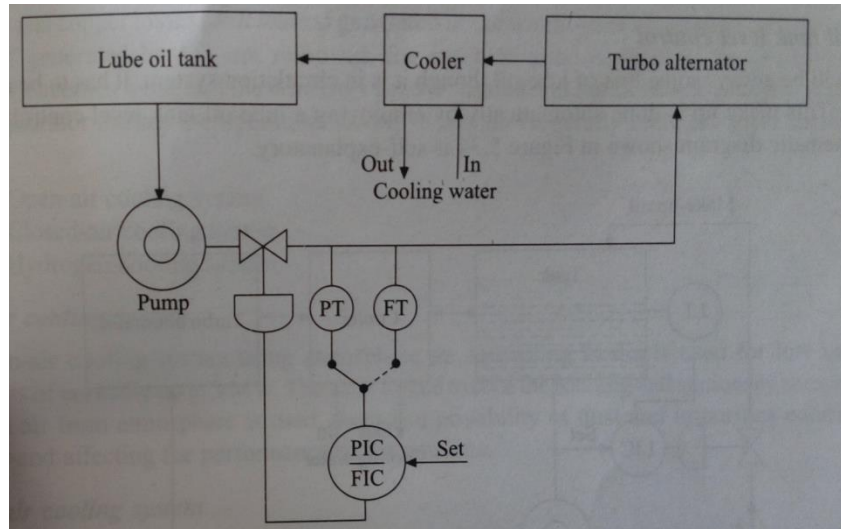

Figure 16 Lube Oil Pressure/Flow Control
- One simple control system for this purpose is shown in figure 16